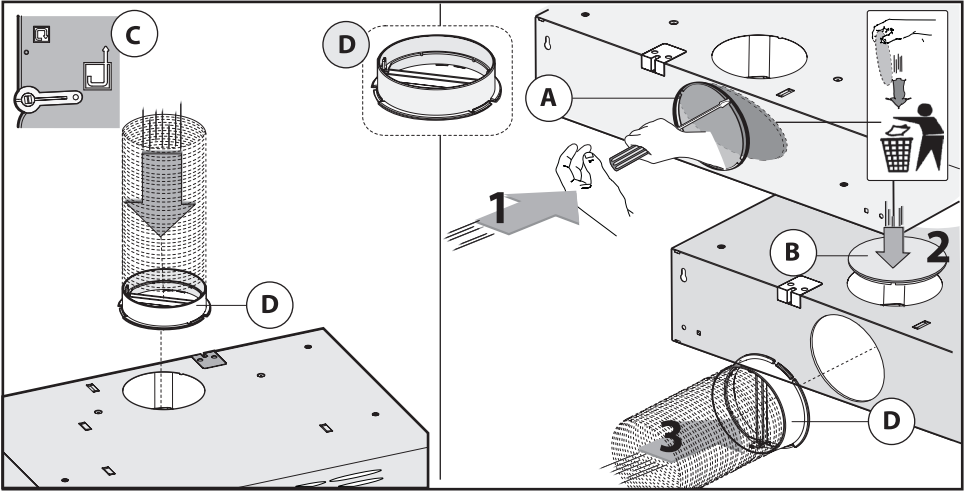

Fig.3
- If the hood is an **extractor** model, the lever **C** must be positioned as indicated in Fig. 3.
The appliance expels the fumes through an outside wall or a duct. It is necessary to buy a telescopic pipe in accordance with the standards in use (flammable) and connect it to flange **D** (Fig 1A). The flange **D** is supplied with the product and should be fixed above the air outlet hole of the hood as indicated in Fig. 3.